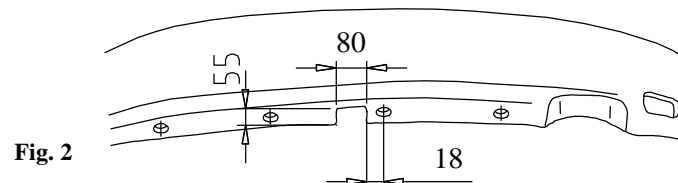

Fig. 2
4. Cut out fragment of bumper as shown in the fig. 2.